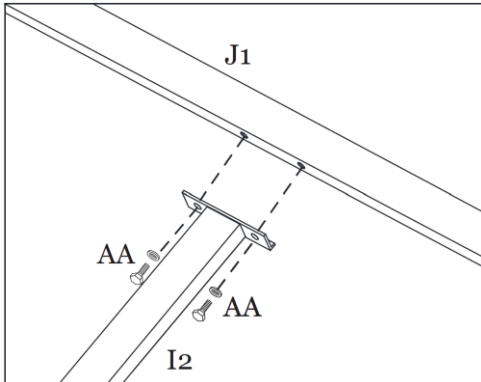

Figure 10-1
Step 10A: Attach the Main Roof Vertical Center Support (I2) to the Short Connectors (J1) using Bolts/Washers (AA). See Figure 10-1.